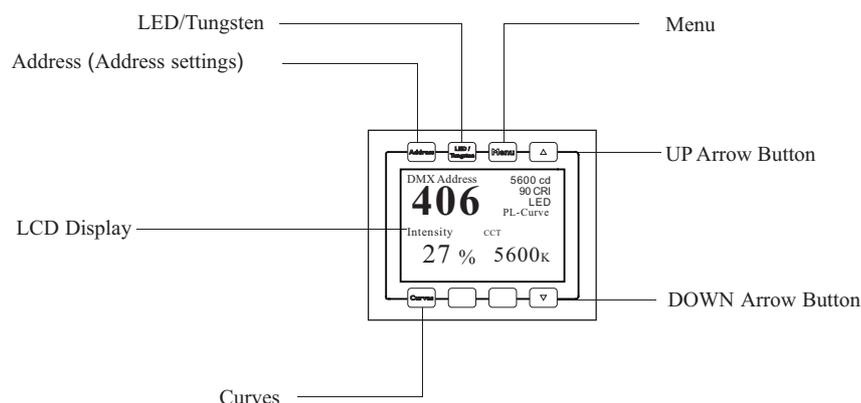

Figure 7: LCD Display and Menu System
- Step 2. Press the desired button (as shown in **Figure 7**) to access menu categories.